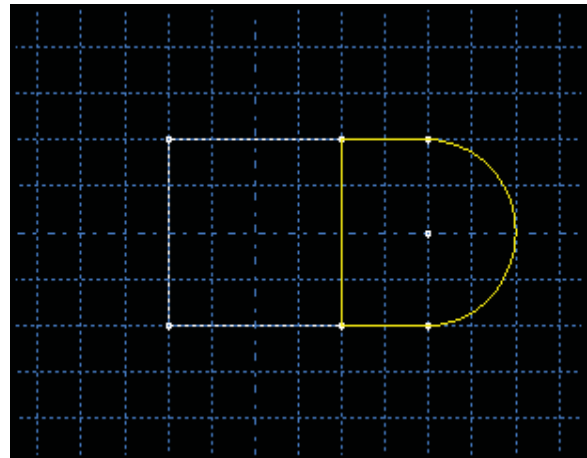

Figure 6-3
8. Move the cursor in a clockwise direction from the top vertex, and click the lower vertex. Abaqus/CAE draws the arc in a clockwise direction as you move the cursor away from the upper vertex. The resulting arc is shown in Figure 6-3.